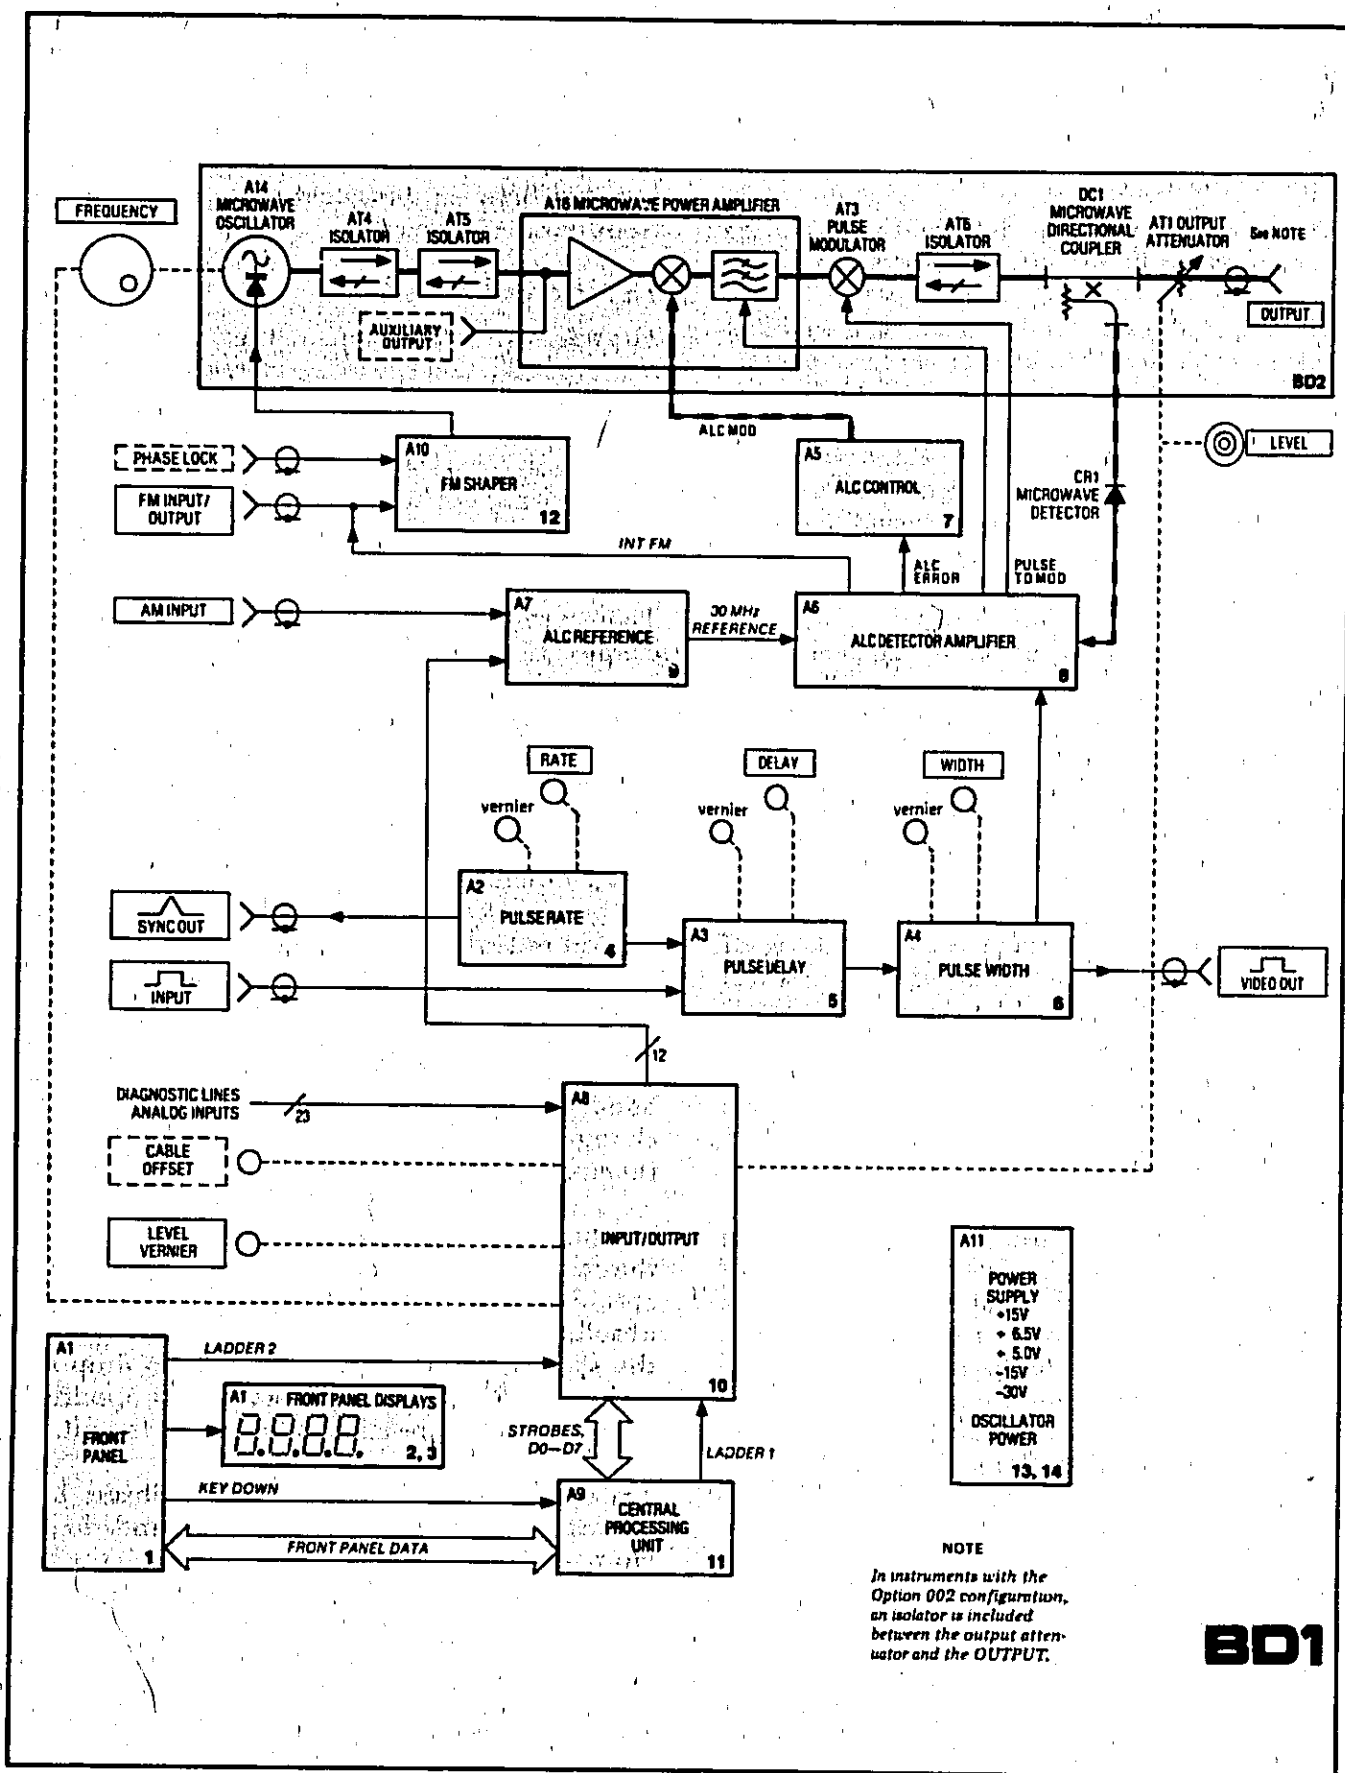

Figure 8-17. Simplified Block Diagram
The Signal Generator simplified block diagram, Figure 8-17, shows the eleven major assemblies and the microwave chain. The assembly number is in the upper left corner of the assembly block and its related service sheet number is in the lower right corner of the assembly block. The diagram can be divided into five major groupings, (1) microwave generation, (2) central processing unit (front panel, input/output, and microprocessor), (3) automatic level control including amplitude modulation, (4) frequency modulation and, (5) pulse modulation.